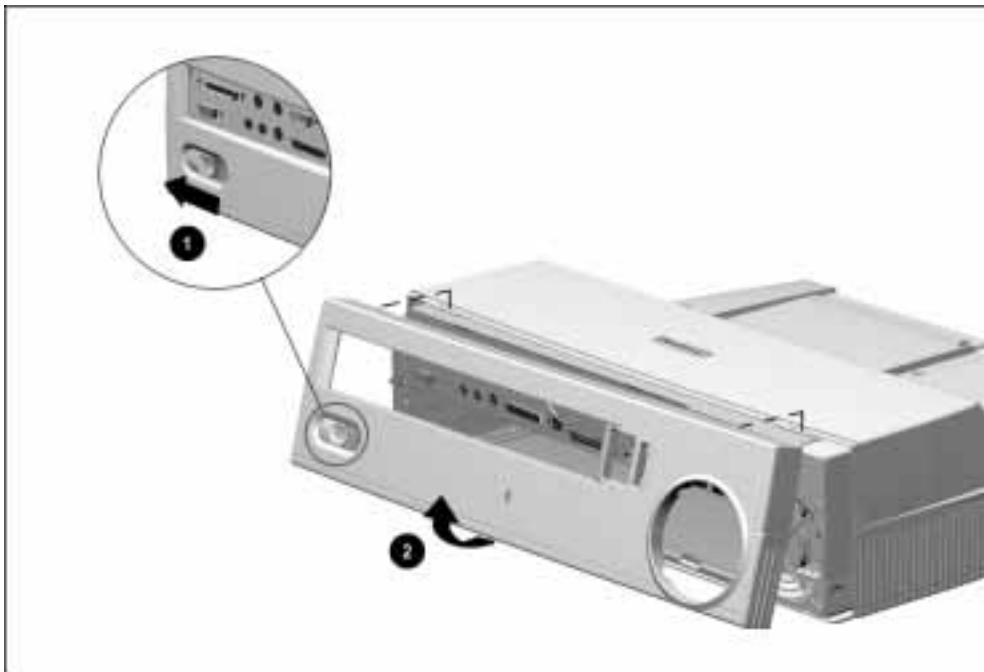

Figure 5-8. Removing the Rear Panel Assembly
3. Slide the rear panel release latch to the left ❶ (Figure 5-8).
4. Grasp the rear panel assembly by the bottom outside edges and swing the panel out and up ❷.